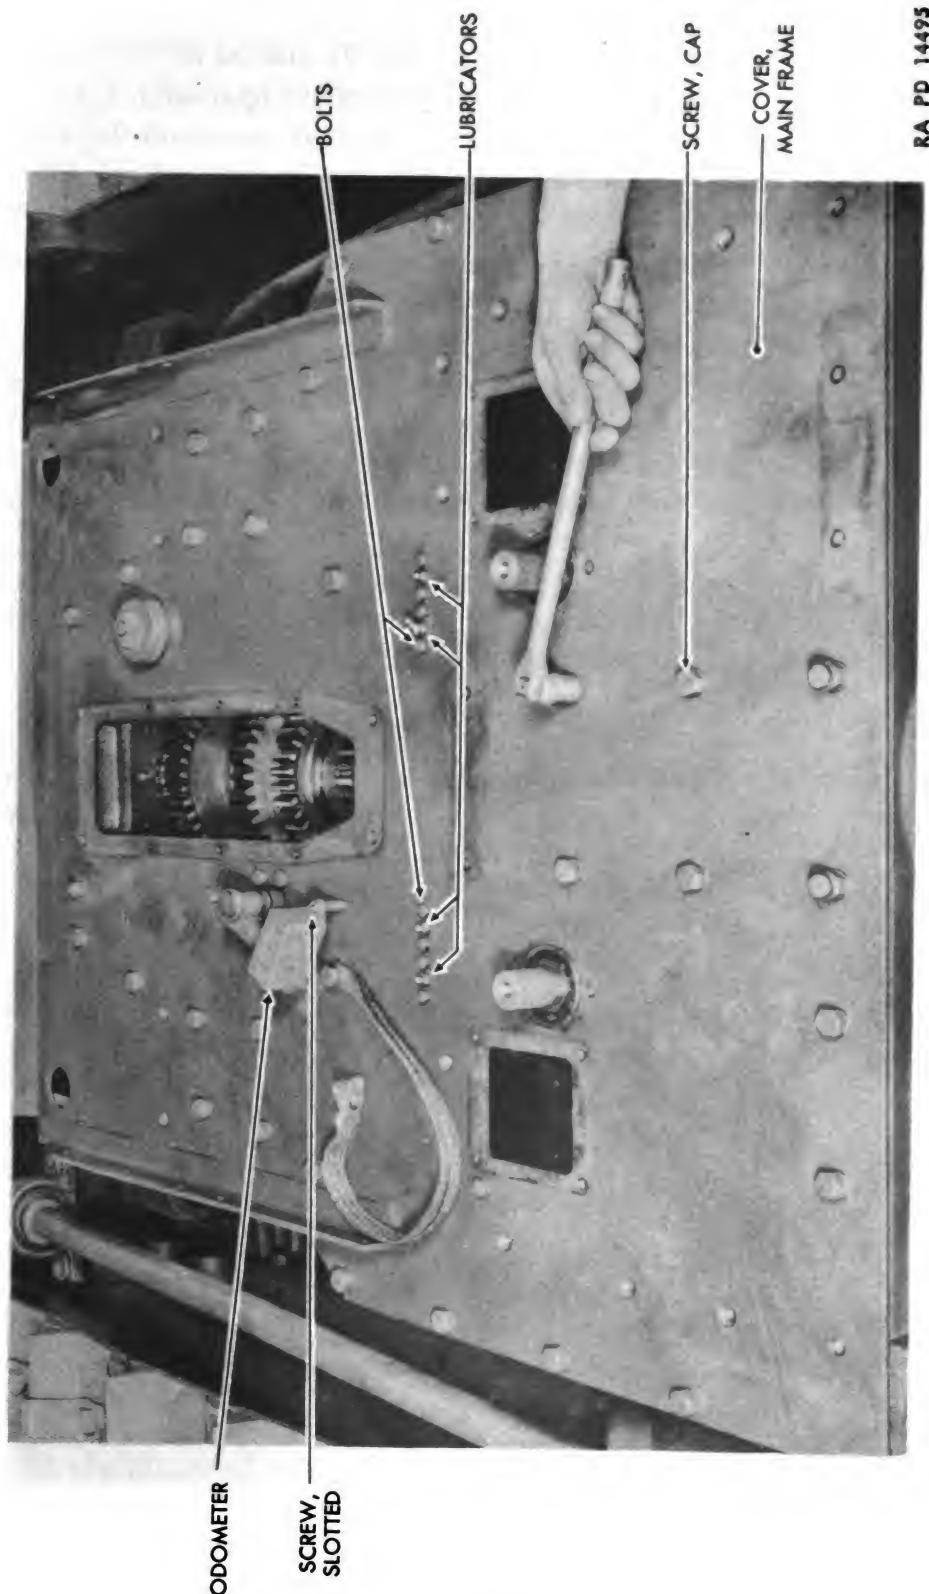

Figure 91 — Main Frame Cover Removal
(8) REMOVE MAIN FRAME COVER (figs. 91 and 92).